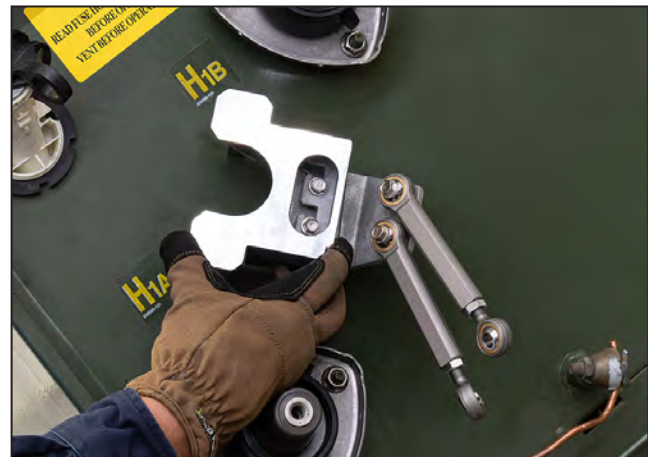

Figure 14. Slide the bolts into the grooves. Pull back on the bracket to hold the bolts against the parking stand radius.
STEP 3. Slide the bracket onto the bolts, and then slide the bracket to the right until the bolts are fully into the grooves. Pull back on the parking stand bracket (angled portion) to hold the bolts against the parking stand radius. See Figure 14.